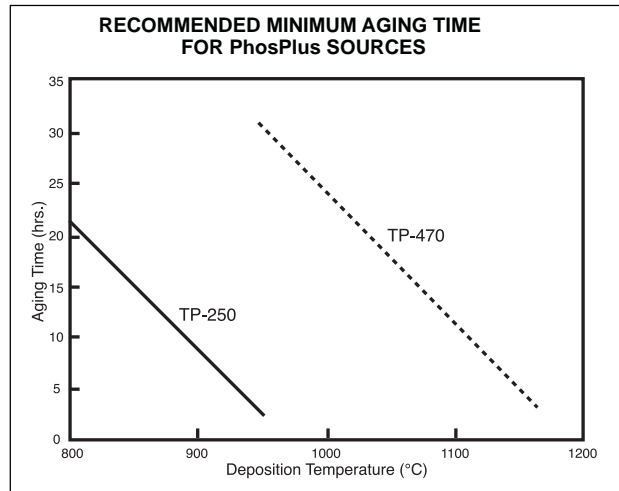

Figure 14
**Preparation:** Before using the PhosPlus sources in production for the first time, they should be held at the intended deposition temperature for a period of time. This will ensure that all moisture has been vaporized, and it enables the sources to achieve a constant  $P_2O_5$  evolution rate. The aging period may last from a few hours for high temperature processes to as long as 24 hours for low temperature processes. Figure 14 gives the recommended minimum aging times for the two PhosPlus sources.